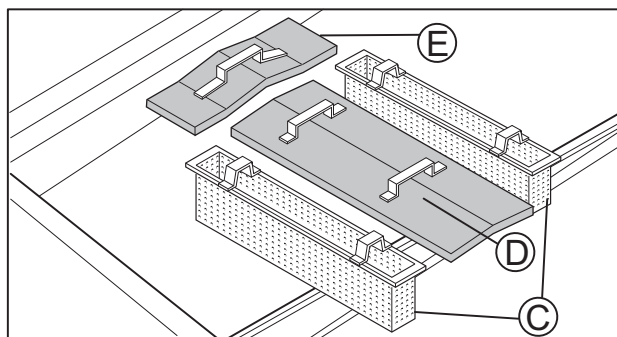

Figure 23 Tank filters
- Remove the tank filters "C" - "D" - "E" (Figure 23).